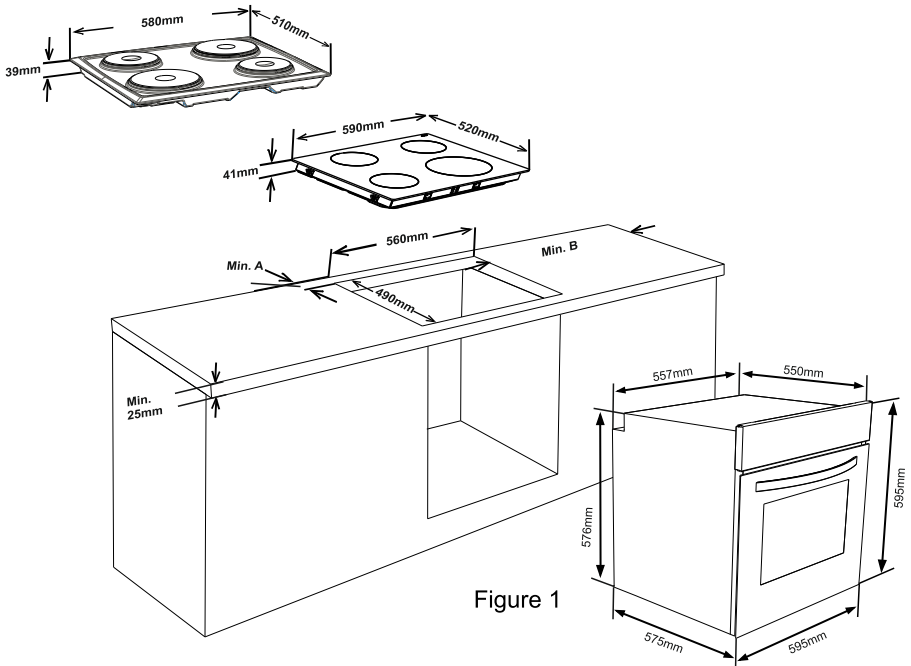

Figure 1
- Create an opening with the dimensions shown in figure 1. The distance between the rear edge of the hob and any adjacent wall is depend on wall surface. Please don't use easily combustible material like curtain, paper at nearby hob.